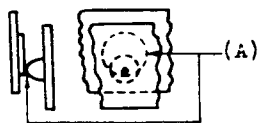

Fig. 3
- \*2.06 Contact Alignment - Fig. 3 (A)** Contacts shall line up so that the point of contact falls wholly within the circumference of the opposing contact disc. Gauge by eye.